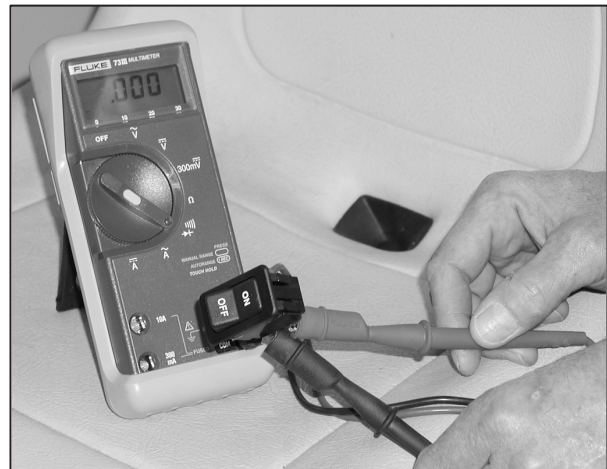

Fig. 37
- Attach one meter test lead to each terminal on the switch, **Fig. 37**. Activate switch.